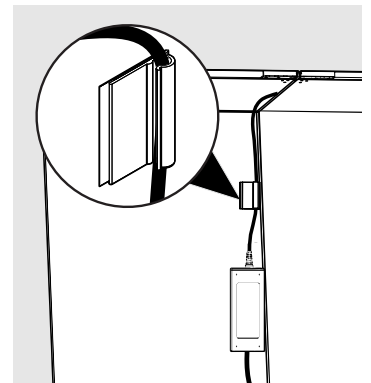

Fig. 12
12. If the power supply cannot be placed on top of the unit, adhere it vertically on the back wall of the unit and make sure the connection of the 3-prong connector to the power supply is facing down (Fig. 12).